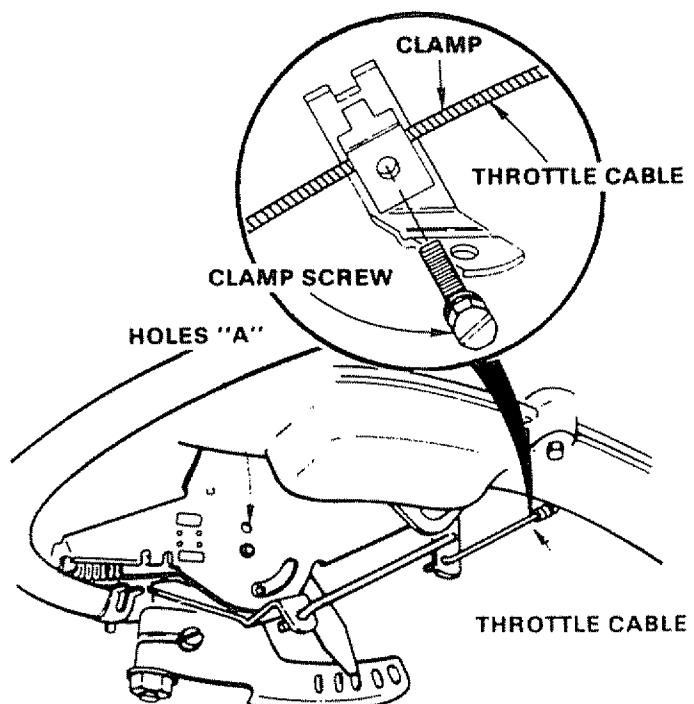

FIGURE 29A
- Loosen casing clamp screw until throttle cable is free to move (Fig 29A)